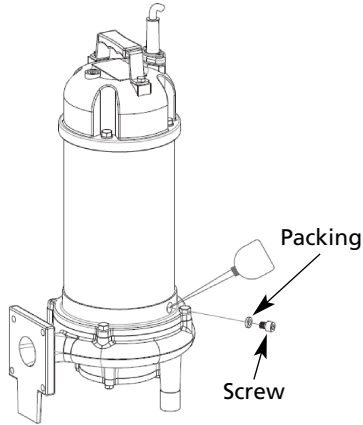

Figure 5
Refer to Figure 5, page 5
Refer to Figure 5
1. First, remove the pipe connections and drain out most of the lubricant oil from the seal plate as previously shown in Figure 5. Refer to "Replacing Lubricant Oil" section.